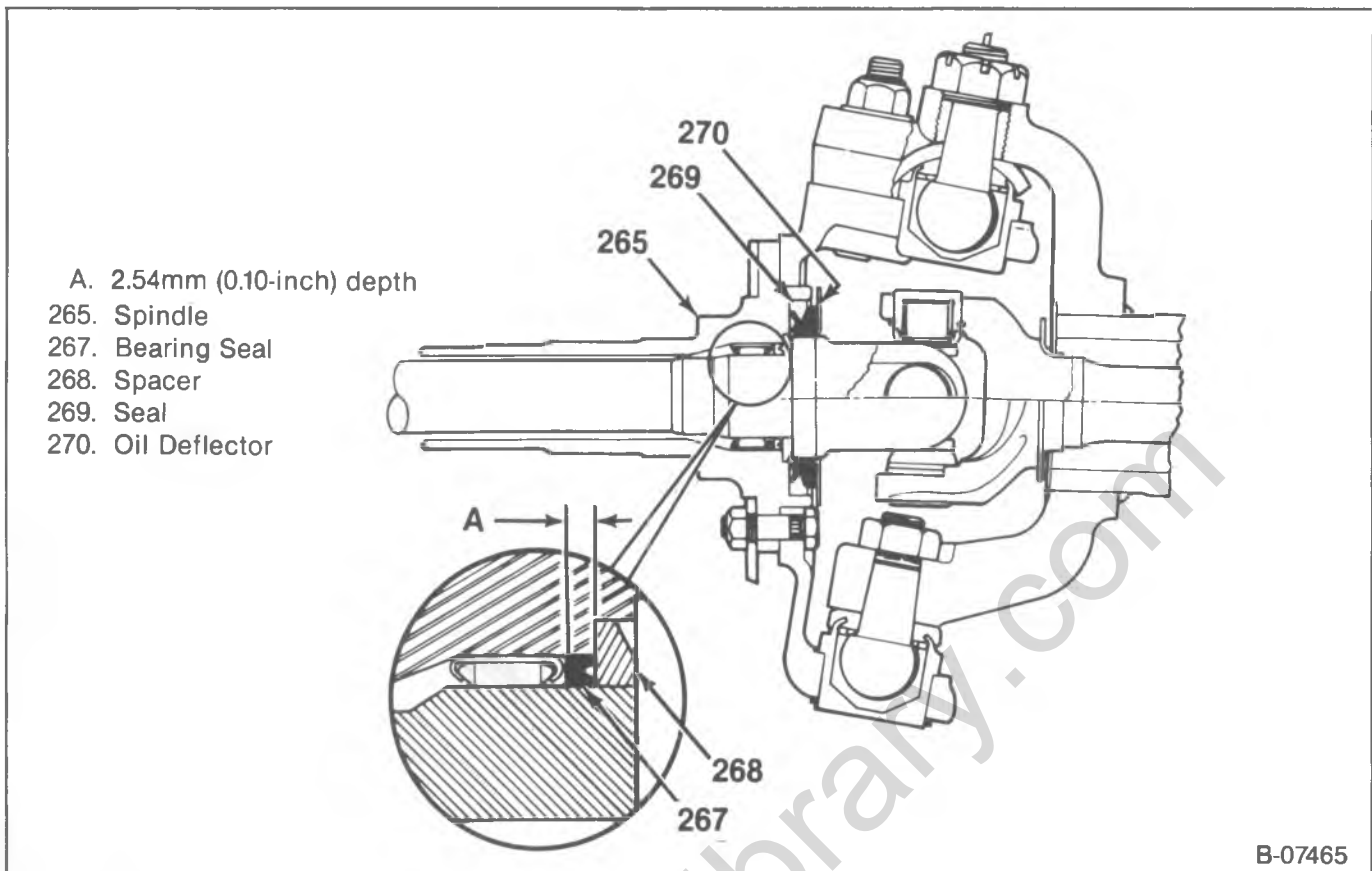

Figure 49—Spindle Components
- Bearing seal (267) and shaft bearing (266) (figure 49).
- Spacer (268), seal (269), and oil deflector (270) from the axle shaft (figure 49).